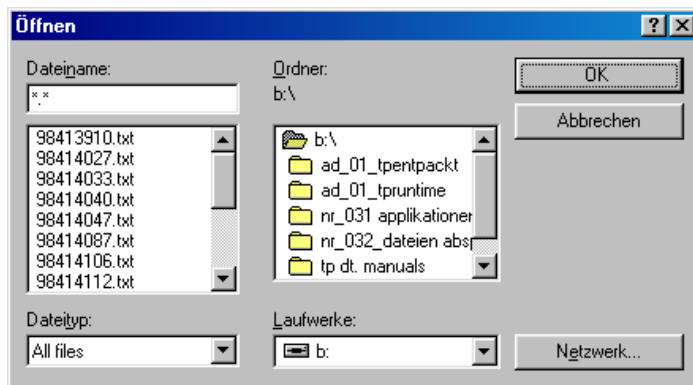

Fig. 2 The file dialogue when pushing “Start”
- If everything is ready, press the start-button (with the mouse) so that all preset values are taken over. At the same time, a dialog box appears, in which you can select the target drive and target directory for the data files to be saved (fig. 2). In the example this is drive B, in which you already can see several files with names like “98413910.txt”. Like in the Explorer you select a drive and directory with a double click. You don’t need to enter file names and types, FILE_01.TST does it by itself. If everything is o.k., press the “OK” button and close the window.